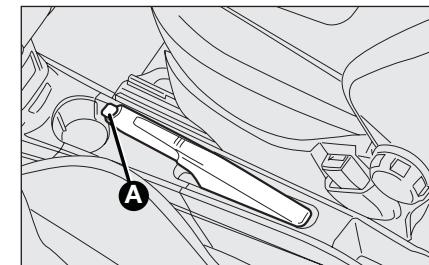

fig. 1
- slightly lift the handbrake and press release button **A**-fig. 1;
- hold button **A** pressed and lower the lever. Warning light (1) on the instrument panel will go out.